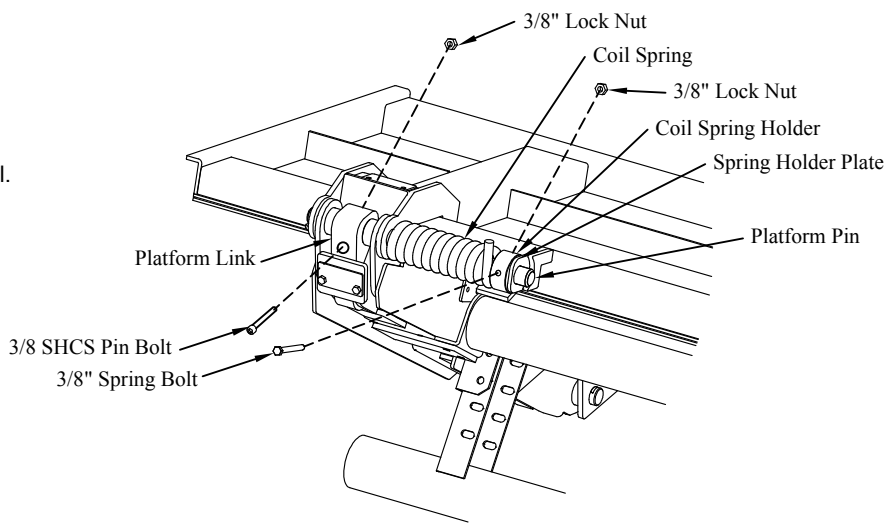

Figure 11: Platform Hardware (other side similar).
6. **ALIGN** holes in platform pins with holes in platform links so groove for coil spring holders in on top (Figure 11).
7. **APPLY** Anit-Seize to the 3/8" SHCS pin bolts and **INSTALL** (Figure 11).
8. **INSTALL** coil springs, coil spring holders and spring holder plates (Figure 11).
9. **INSTALL** the 3/8" spring bolts (Figure 11).